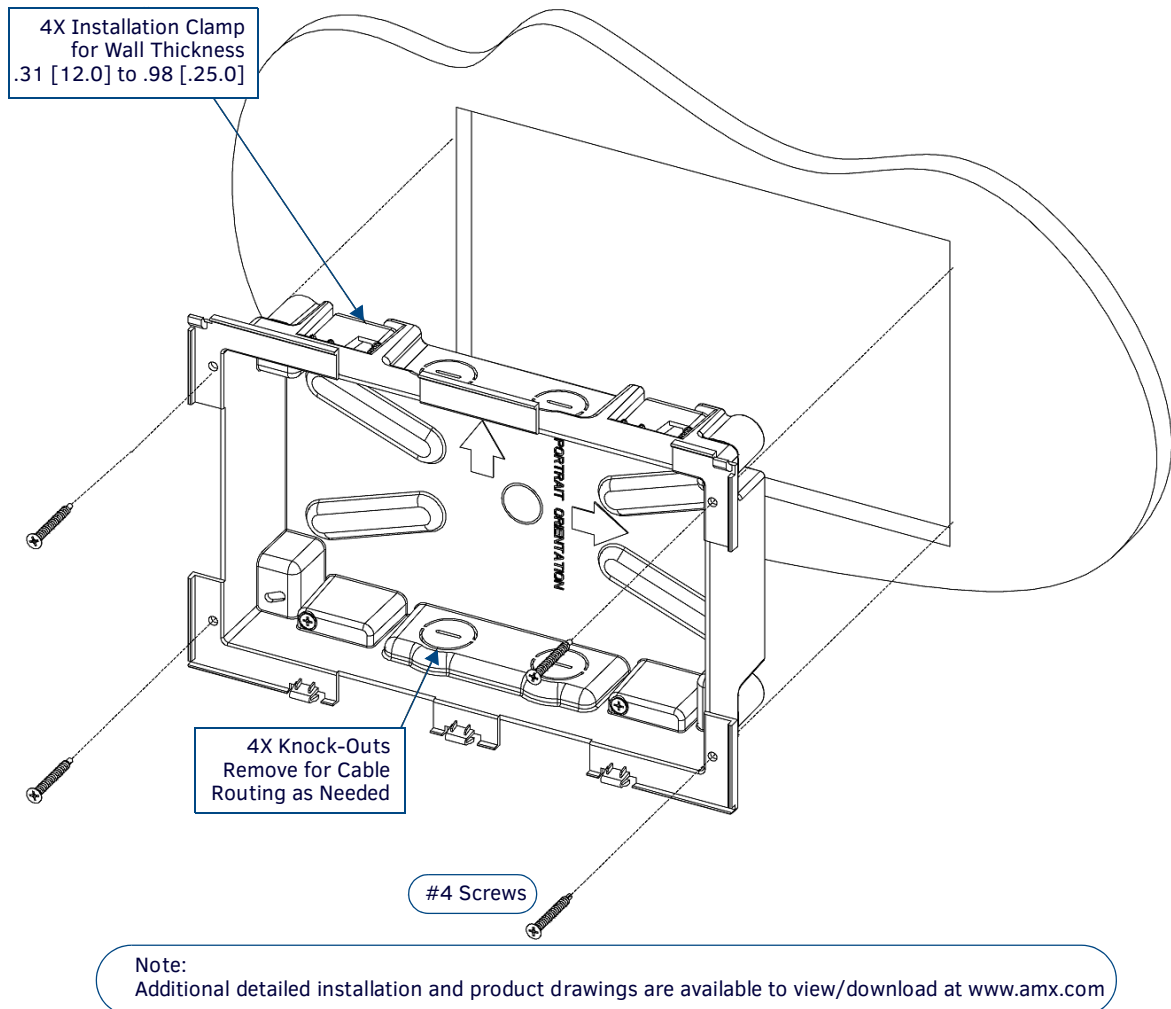
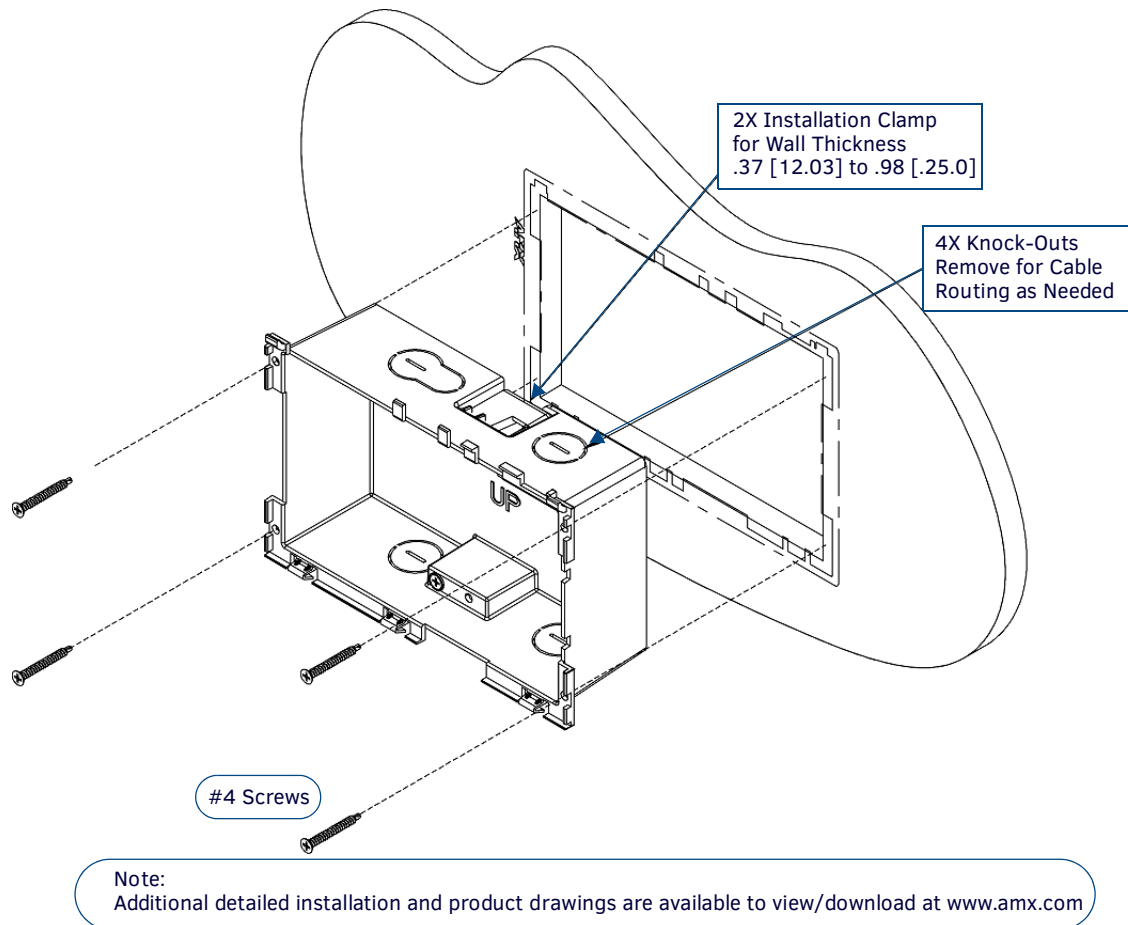

FIG. 43 MXD-1001 Backbox Installation (Landscape)
FIG. 44 MXD-701 Backbox Installation (Landscape)
3. Thread the incoming Ethernet and USB cables through the surface opening (FIG. 43 and FIG. 44). Note that these figures show a landscape panel but the installation of a portrait panel is essentially the same, other than the vertical orientation. Leave enough slack in the wiring to accommodate any re-positioning of the panel.
FIG. 43 shows the MXD-1001 Backbox installation:
FIG. 44 shows the MXD-701 Backbox installation:
- For additional strength, #4 mounting screws (not included) may be secured through circular holes located at the left and right sides of the panel (FIG. 43, FIG. 44). In order to prevent damage to the touch panel, make sure that these are flush with the Backbox.